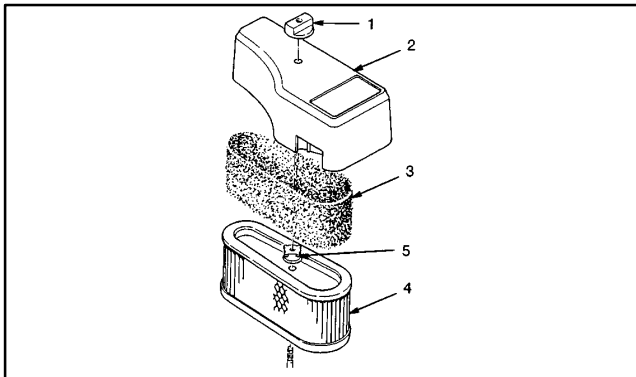

Figure 11
2. Remove the knob and air cleaner cover (Fig. 11).
3. Every 25 hours the foam pre-cleaner should be cleaned (Fig. 11). Remove foam pre-cleaner by sliding it off the paper cartridge (Fig. 11).
4. The paper air cleaner cartridge should be replaced every 100 hours. Remove one nut from the top of the paper cartridge (Fig. 11).